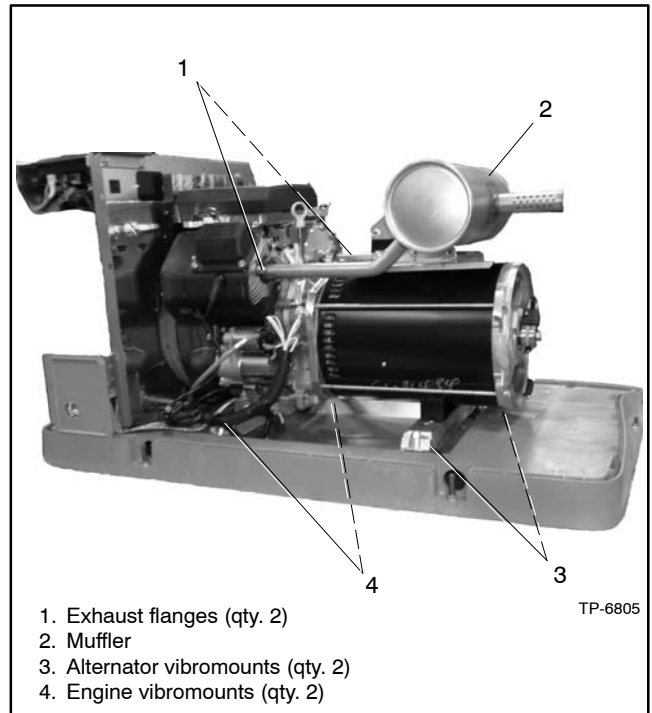

Figure 7-9 Muffler and Vibromounts
15. Disconnect the muffler from the engine at the two flange connections and remove the muffler. See Figure 7-9.